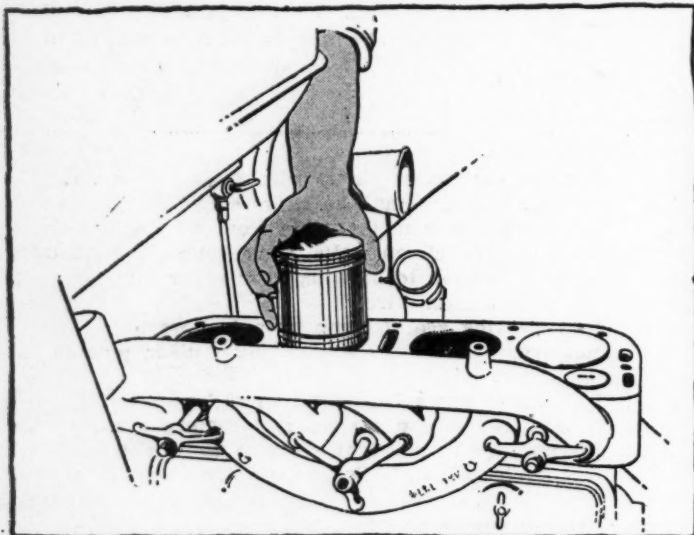

Fig. 12—Removing piston and connecting rod assembly
75. Pull piston and connecting rod assembly through top of cylinder block, as in Fig. 12.